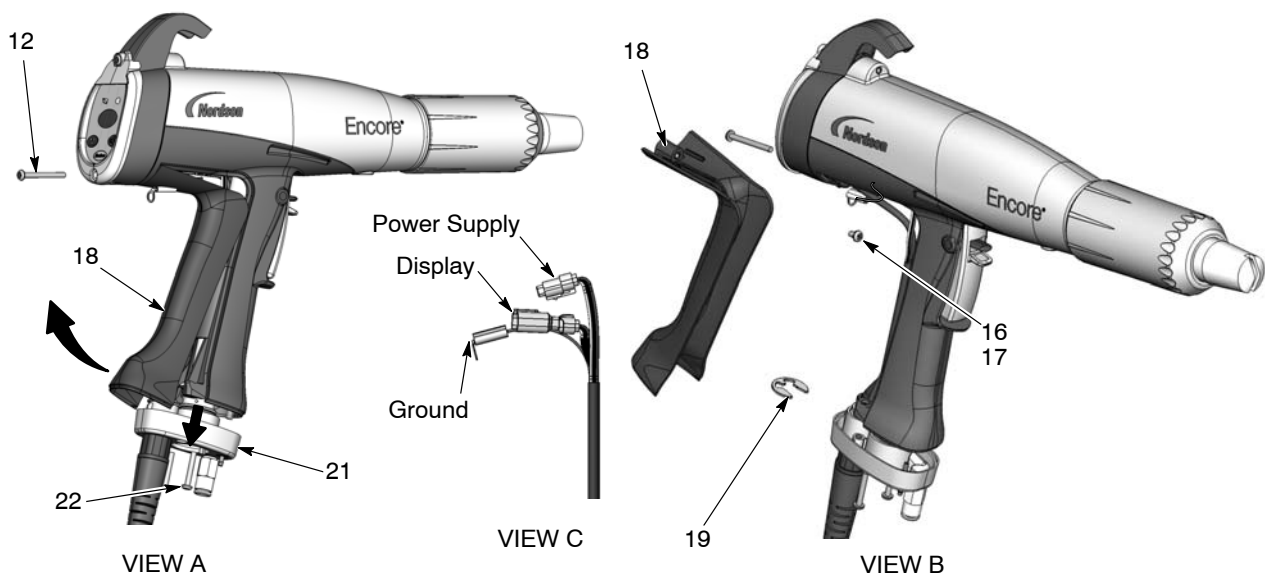

Figure 6-7 Cable Replacement
2. See Figure 6-7, View A. Remove the two M3 x 20 screws (22) securing the handle base (21) to the handle.
3. Remove the lower M3 x 35 screw (12) from the display module.
4. Pull the base away from the handle enough to free the bottom edge of the ground pad (18) from the base.
6. See Figure 6-7, View B. Remove the M3 x 8 screw, lock washer (16, 17), and ground terminal from the ground pad.
7. Remove the retaining ring (19) from the cable.
8. See Figure 6-7, View C. Pull the cable connectors out of the handle. Insert a small flat-bladed screw driver in the slots of the power supply and display connectors to release the catch and disconnect them.
1. See Figure 6-7. Feed a new cable through the handle base, then install the retaining ring (19) on the cable to hold it in place.